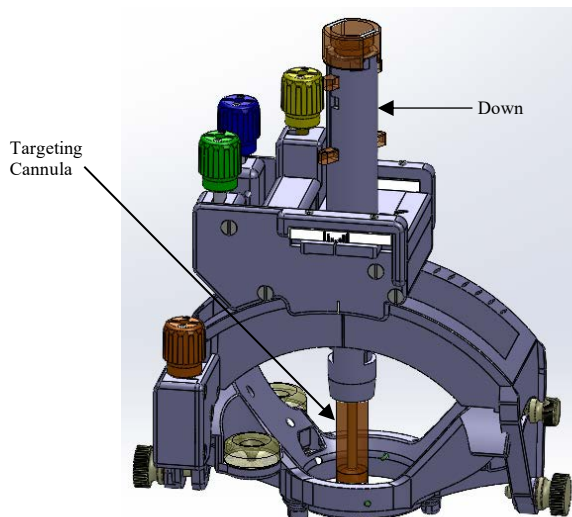

Figure 7: Targeting Cannula positioning and Tower/Base Orientation
11. Confirm that the Targeting Cannula is in the down position to begin the procedure. **See Figure 7.**